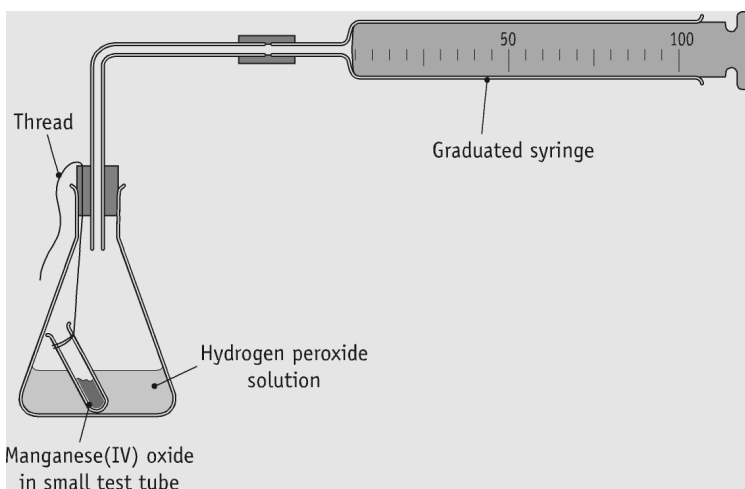

Figure 1.0
As illustrated in figure 1.0, the manganese dioxide will be kept apart from the H_2O_2 until the start of reaction. The MnO_2 will be delivered using an inner test tube, which is turn is connected to a thread. Once the bung is attached to the conical flask the thread can be released and the reaction can proceed. The purpose of this is to increase the accuracy.
5. Secure the bung, both to the conical flask and the gas syringe as illustrated in figure 1.0. Release the thread and measure the volume of gas collected. Repeat the experiment 3 times to get reliable results.